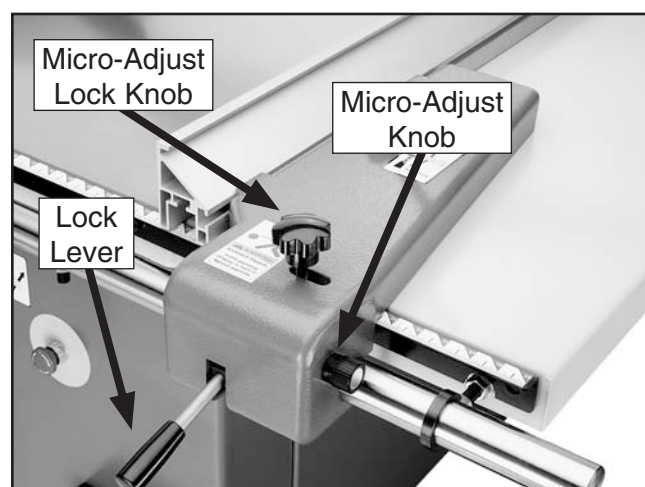

Figure 79. Rip fence micro-adjusting controls.
6. Tighten down the micro-adjust lock knob (**Figure 79**) and turn the micro-adjust knob to zero in on the desired width-of-cut.